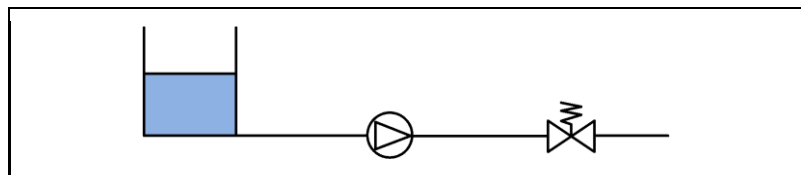

Fig. 22: Volatile media
For precise metering of liquids with a low vapour pressure, such as solvents, the system should be set up as shown in Fig. 22
1. Set up the system as shown in Fig. 22